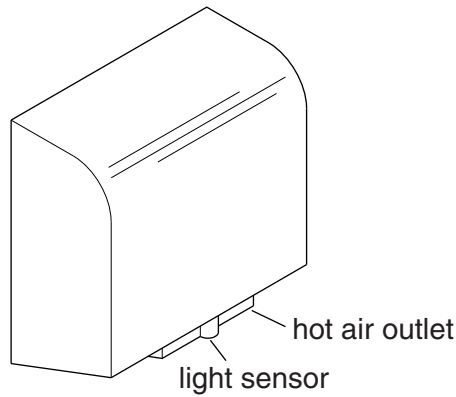

Fig. 15
- 5 Fig. 15 shows a hot air hand dryer. The hand dryer operates when a light sensor near the hot air outlet is shaded by the hands of the user.